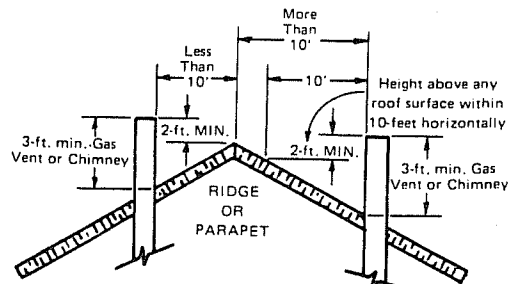

FIGURE 4 – TYPICAL CHIMNEY LOCATIONS, BACKDRAFT REDUCTION
2. Of the proper height to prevent downdrafts (See Fig 4).